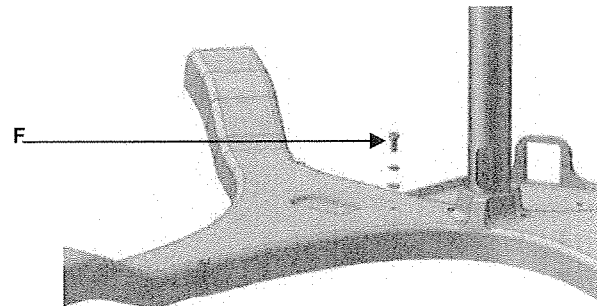

Figure 10: Ground Screw
14. Secure the attachment bar using the two (2) M8 washers and two (2) M8 screws. Tighten the screws using the 6mm Allen wrench.
16. Remove the ground screw and washers (F) using the 3mm Allen wrench. Refer to Figure 10.